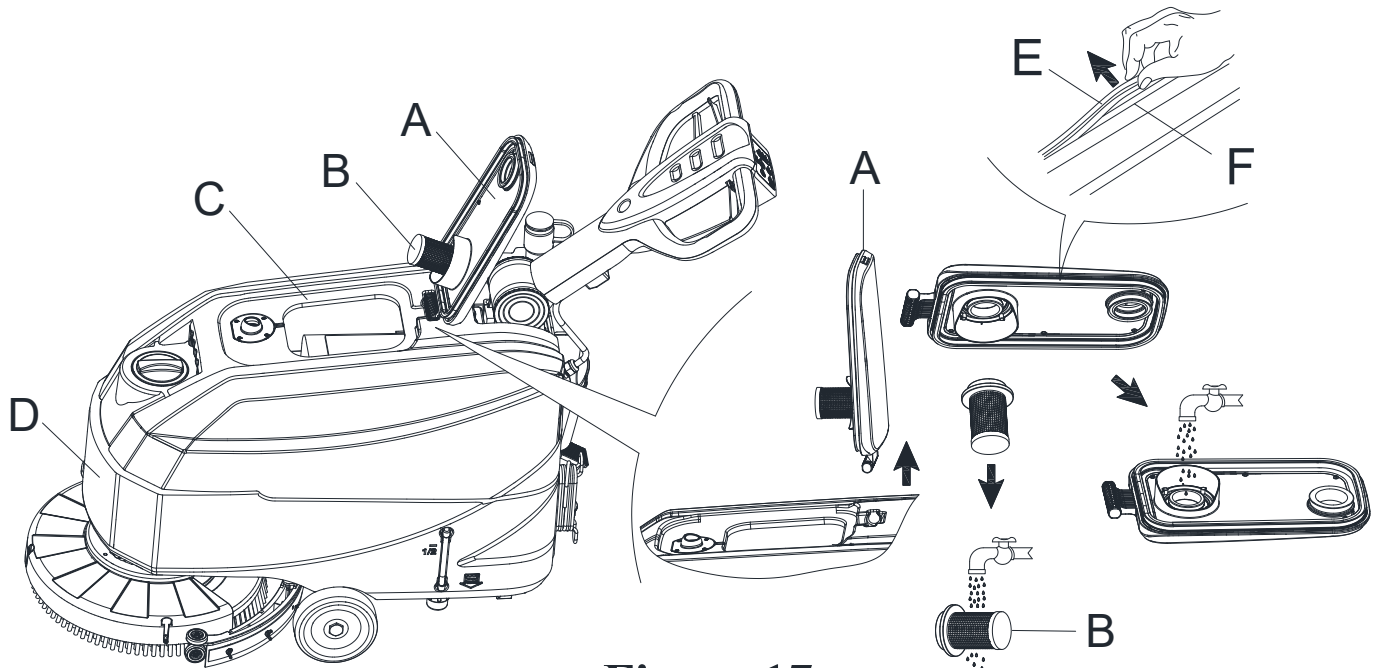

Figure 17
3. Turn the recovery tank lid (A, Figure17) 90 degrees position where it can be taken off from the recovery tank, and then take out the float ball filter (B) from the recovery tank lid.
7. Check whether the contact surface of sealing strip (E) has integrity and sealing is sufficient. If necessary, take the sealing strip of the tank out of the groove (F) and replace it. Assemble the new sealing strip as shown in (Figure 17), the joint should be back in the middle area.
8. Close the recovery tank lid (A).